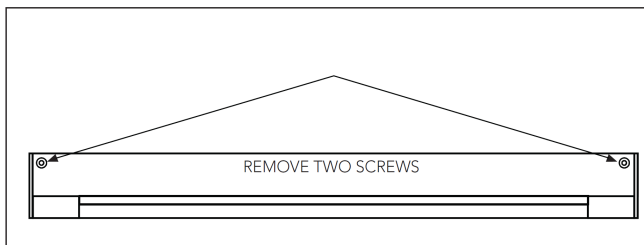

Figure 1
1. Refer to Figure 1, and remove the two screws from the top of the fixture that hold the rear backplate. Retain screws for later use. Remove the rear backplate from the fixture.